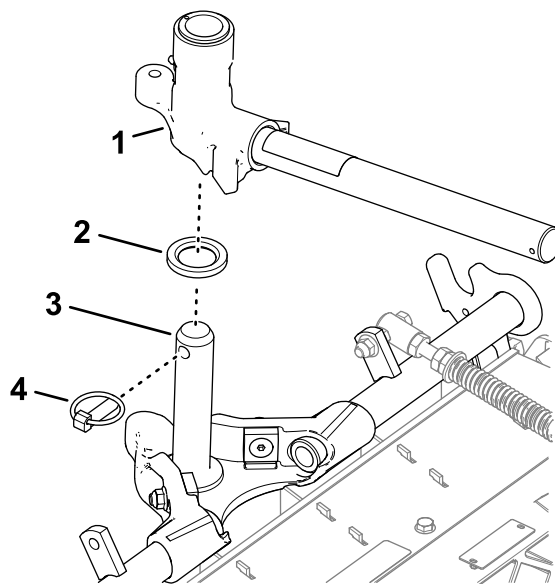

Figure 29
- Insert the lift-arm yoke onto the carrier frame shaft (Figure 29).